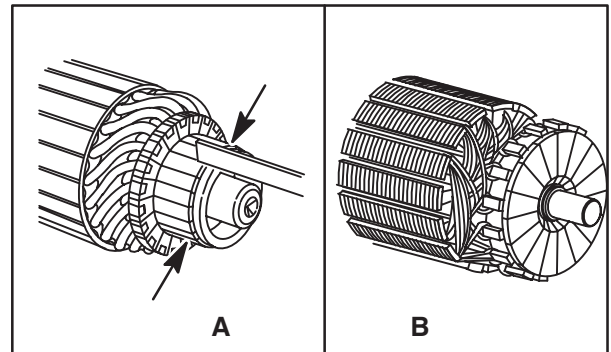

Fig. 16
The armature commutator shown in Fig. 16 (A) can be cleaned with fine sandpaper. DO NOT use emery cloth. The commutator can be machined a diameter of NO LESS THAN 1.230" (31.24 mm).
Slots between commutator bars should be cleaned as shown in Fig. 16 (A) after sanding or machining. Check the armature for shorts with a growler.
NOTE: The style armature commutator shown in Fig. 16 (B) cannot be machined.